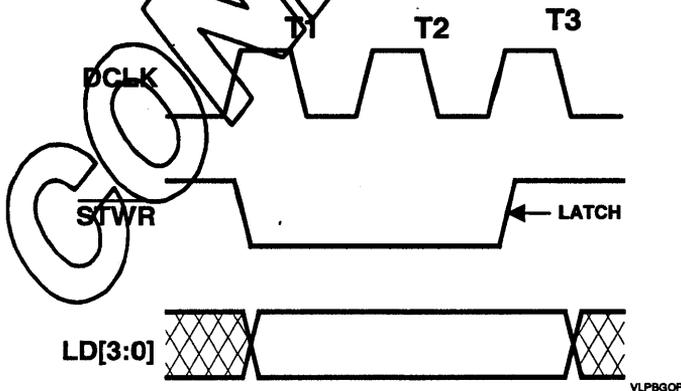

Figure 12-6. General I/O Port Timing (PCI)
5. Write (anything) to CR5C. The data on LD[7:4] are latched 2 DC clocks later into MMFF1C\_7-4. (This also drives the contents of MMFF1C\_3-0 onto LD[3:0] and generates the STWR pulse on pin 190. The input data is latched on the rising edge of STWR. See Figure 12-6)
5. Write (anything) to  $\text{CR5C}$ . The data in  $\text{MMFF1C}_3-0$  are immediately driven onto  $\text{LD}[3:0]$  and the  $\overline{\text{STWR}}$  pulse is generated. The rising edge of  $\overline{\text{STWR}}$  (2 DCLKs after it is asserted) can be used to latch the data into an external device. The data is held valid for 1/2 DCLK after this edge. See Figure 12-6.